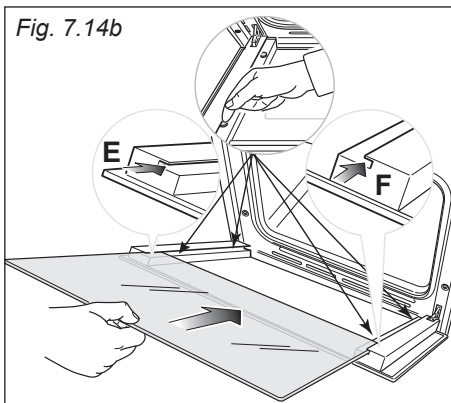
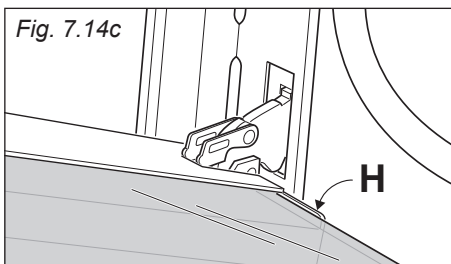

Fig. 7.14b
Fig. 7.14c
IMPORTANT: It is advisable, while refitting the glass, to keep pressed in position the four rubber pads "D", by a finger, to avoid breakage or slippage of the rubber pads themselves (fig. 7.14b).
- Insert the pane in the left "E" and right "F" slide guides (fig. 7.14b), and gently slide it to the retainers "H" (fig. 7.14c).